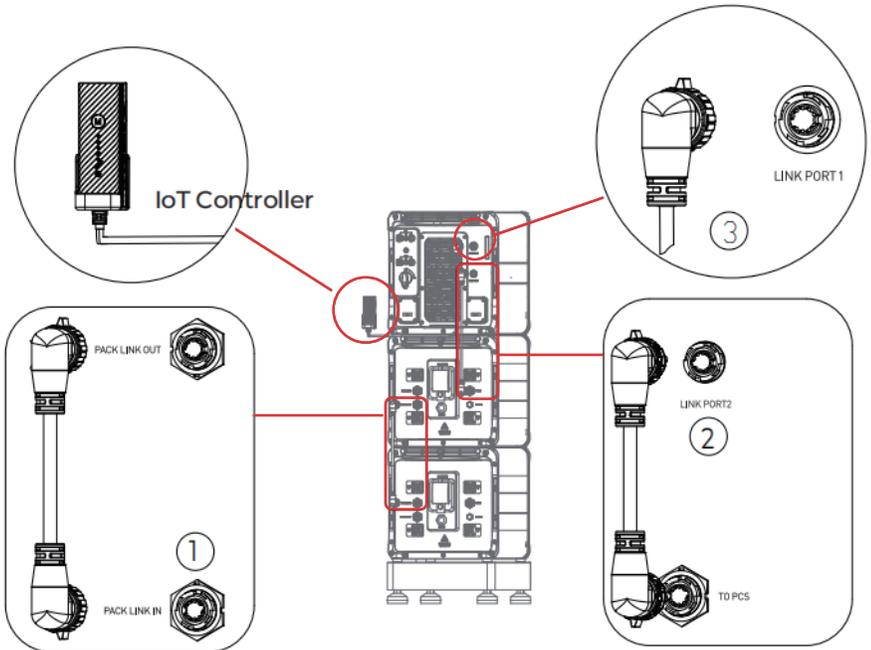

Fig. 7-3
**Step 1:** To achieve communication between two B500 battery packs, a communication cable is required. Plug one end of the cable to the B500's PACK LINK IN port, and the other to the upper B500's PACK LINK OUT port. See Fig. 7-3 ①.
**Step 2:** For communication between the EP900 inverter and B500 battery packs, plug one end of the communication cable to the top B500's inverter signal port (TO PCS), and the other to the LINK PORT 2 of the EP900 inverter. See Fig. 7-3 ②.
**Step 3:** Connect the IoT controller to the LINK PORT 1 of the EP900 inverter. See Fig. 7-3 ③.